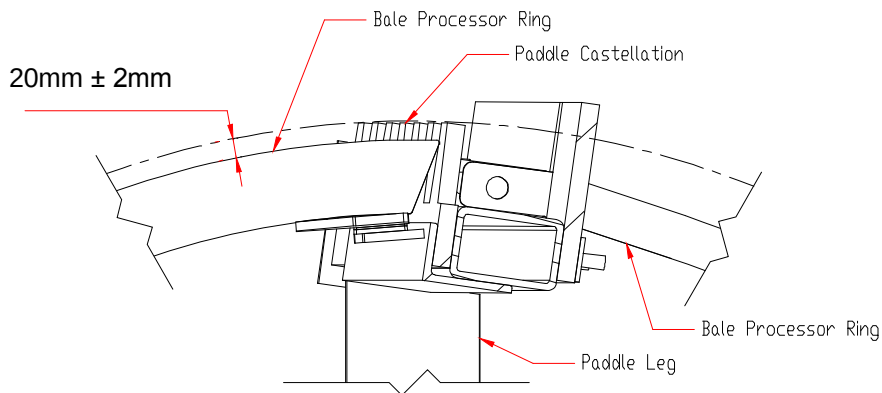

Figure 16: 08 Bale Processor ring to paddle tip setting
- 2: The rubber buffer should also be checked for wear or signs of damage which may affect its shock absorption. Optimum tine to top knife gap is **235mm ± 10mm**, but may vary depending on application and the design of tine fitted. Please consult your local Service Centre for settings. The optimum distance from the ring to the top of the castellation is **20mm ± 2mm** on the rear of the ring (Series II Bale Processor machines only – see figure 16).